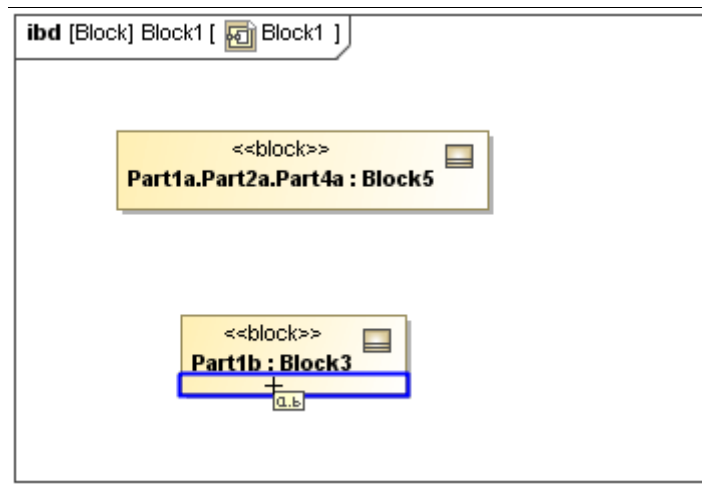
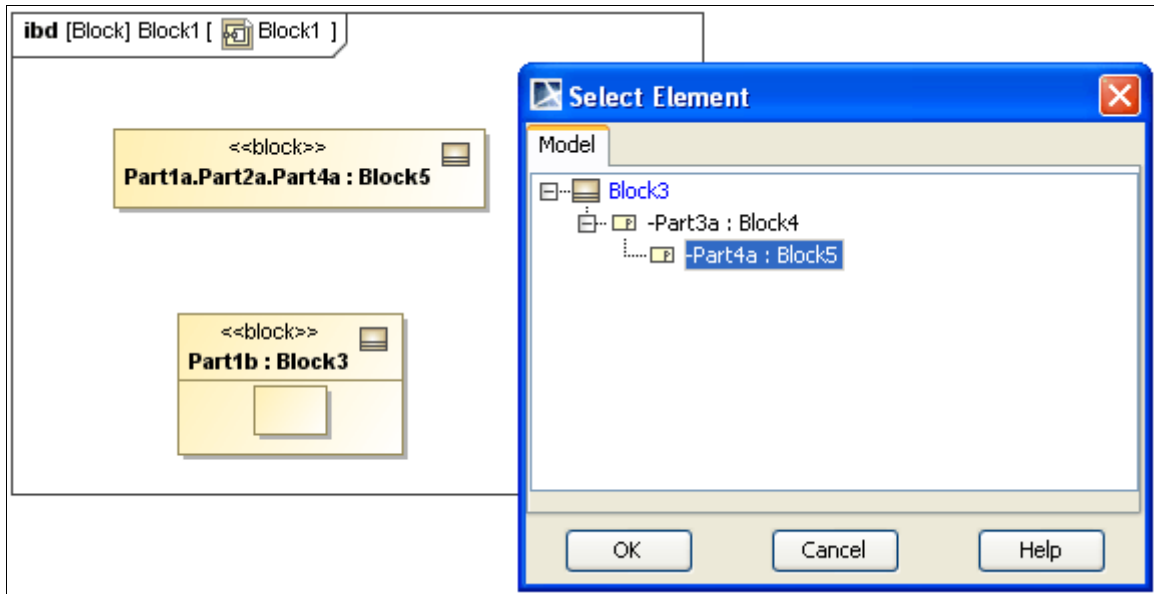
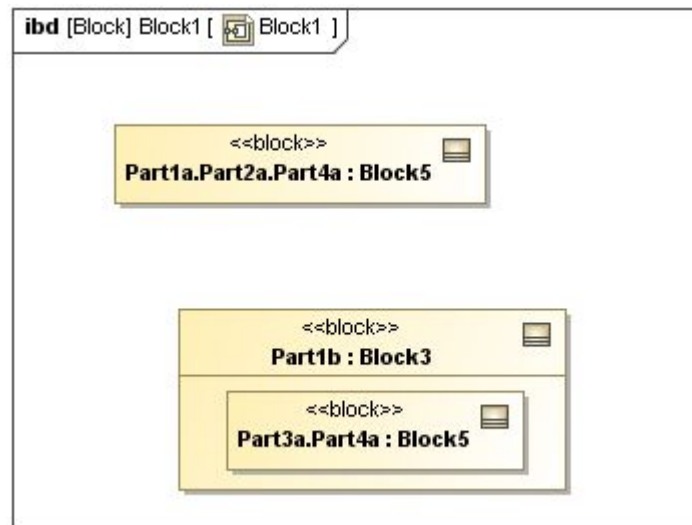

Figure 87 -- Creating a New Property
Figure 88 -- Placing the newly-created Property on the IBD as a NESTE Part
Figure 89 -- The Selected Nested Part Displayed
4. Here is another example. If a property of Block1 block; part1b (typed by Block3) is placed on **Block1** of the IBD (Figure 87), select the **Select Nested Part** button on the IBD toolbar and place it on the **part1b : Block3** symbol. The following **Select Element** dialog will open (Figure 88).
- In this last example, the dialog in Figure 88 shows all parts (properties) nested inside Block3. If **part4a** (typed by Block5) is selected, the result will be as in Figure 89.